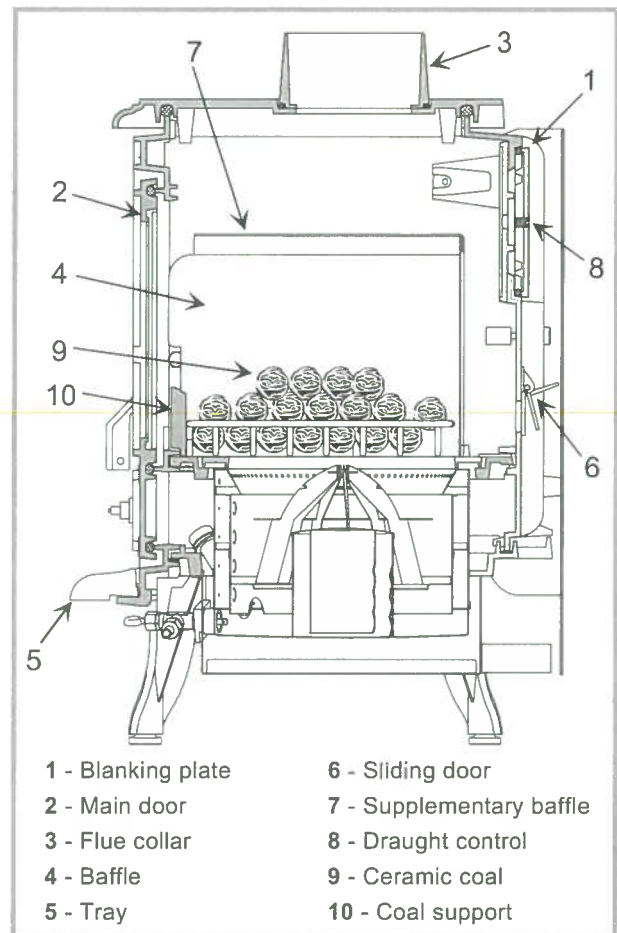

Figure 5 - Description
- Open the main door, remove the ceramic coal grate with their coal (rep. 9 and 10, fig. 5, p. 5) and remove the internal baffle (rep. 4 and 7, fig. 5, p. 5).